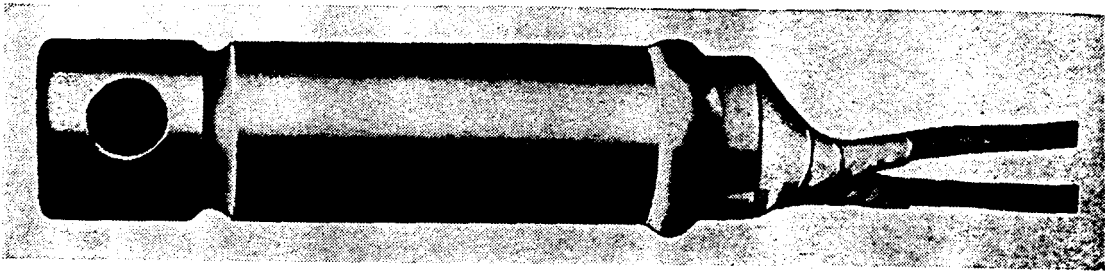

Figure 39. M1 flash-vented electric squib.
a. *Electric Squib.* The M1 flash-vented electric squib (fig. 39) is a metal tube three-sixteenth inch in diameter by $1\frac{1}{2}$ inches long containing a small powder charge compressed around a filament of high-resistance wire. The ends of the filament are connected to 12-foot lead wires which are used for connecting the squib to a source of electric current. The free ends of the lead wires are connected together during manufacture and must not be separated until just before connecting the squib to a firing circuit. The end of the metal tube is pierced at the side by several small holes which vent the flame produced by the powder charge when the squib is ignited. The M1 squib has a resistance of 1.5 ohms and requires a current of no less than 0.6 amperes for ignition. A single flashlight cell (BA 30) will furnish the necessary current to ignite the squib if used with no more than 10 feet of wire between it and the squib. When an electric current flows through the filament, the filament becomes hot and ignites the powder. The powder burns rapidly causing flame to issue from the holes in the end of the tube. Several other types of squibs are used with ground chemical munitions, but these are components of the munitions (for example, the squibs in the M5 smoke pot). These internal squibs function in the same way as the M1 squib, but the tubes are made of paper or cardboard as there is no need for physical protection of an interior part.